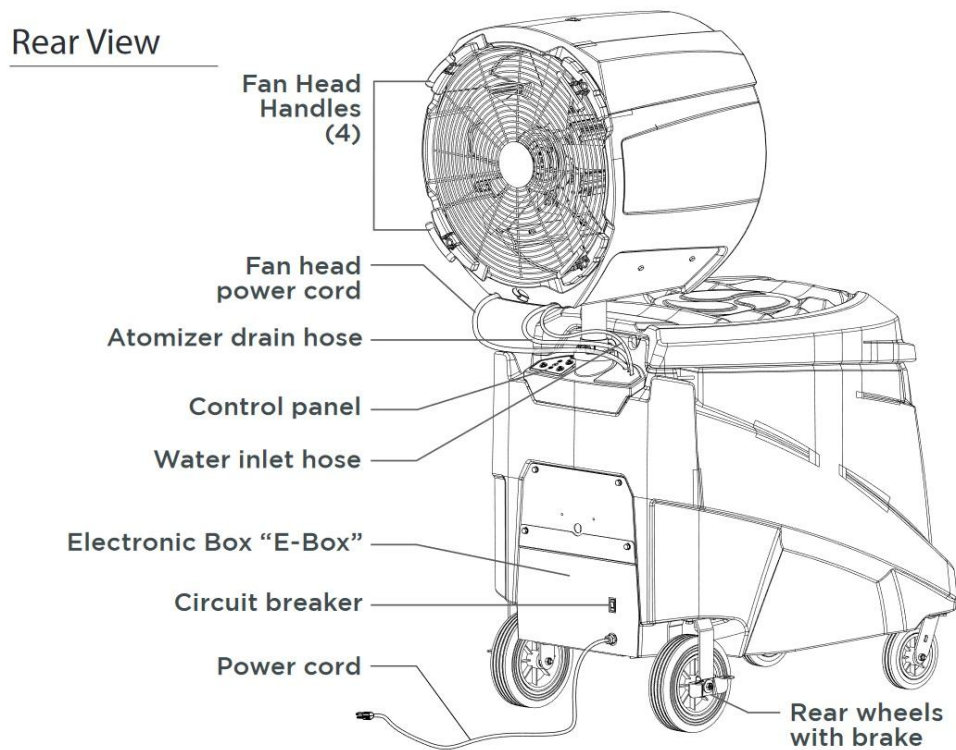

Figure 1
7. Using the 13mm socket, remove the two lower bolts holding the E-Box in place. (E-Box is located in the lower rear part of the mobile unit.) See Figure 1.